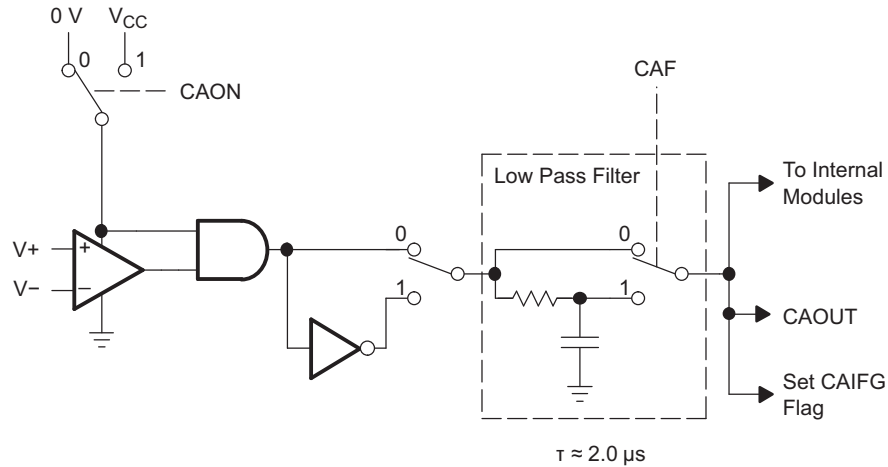

Figure 32. Comparator\_A+ Block Diagram
| t (response)            | Response time (low-to-high and high-to-low)T A = 25°C, Overdrive 10 mV,Without filter: CAF = 0 (3)(see <a href="#">Figure 32</a> and <a href="#">Figure 33</a> ) | 2.2 V           | 80   | 165  | 300                 | ns   |
|                                    | Response time (low-to-high and high-to-low)T A = 25°C, Overdrive 10 mV,Without filter: CAF = 1 (3)(see <a href="#">Figure 32</a> and <a href="#">Figure 33</a> ) | 2.2 V           | 1.4  | 1.9  | 2.8                 | μs   |